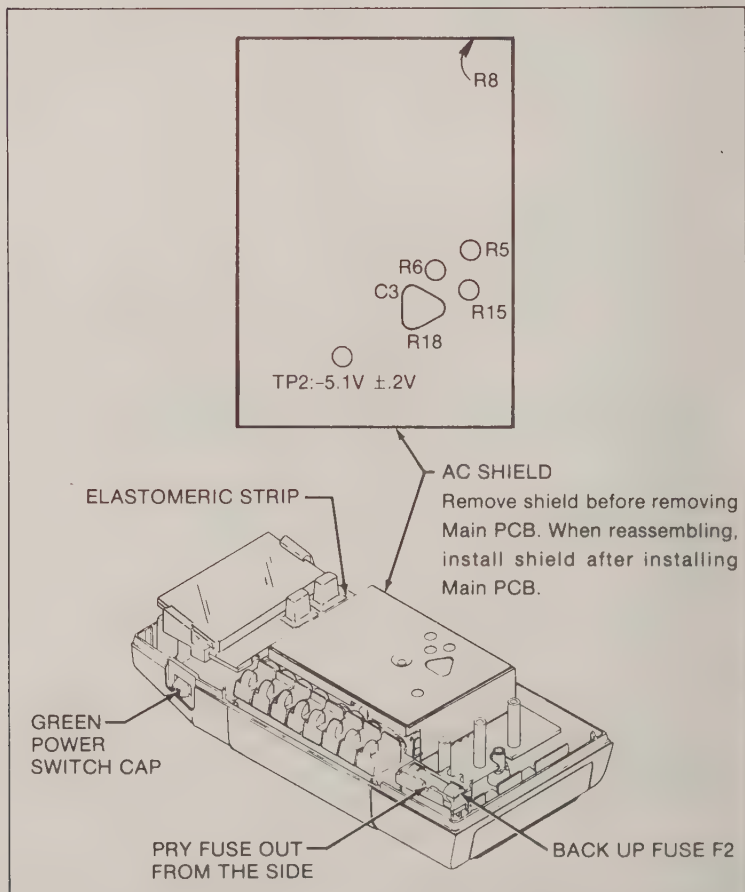

Figure 4-1. Calibration and Backup Fuse (F2) Access
3. Turn the instrument face-up and grasp the top cover at both sides of the input connectors. Then pull the top cover from the unit. The backup fuse and the calibration adjustments are now accessible (Figure 4-1).
**The function buttons below the display are part of a single elastomeric strip (Figure 4-1) that is held in place by the top cover. When the top cover is removed, the elastomeric strip will be loose**
2. Use a flat-tipped screwdriver to pry the fuse out of its fuse holder. Pry the fuse from the side as indicated in Figure 4-1.